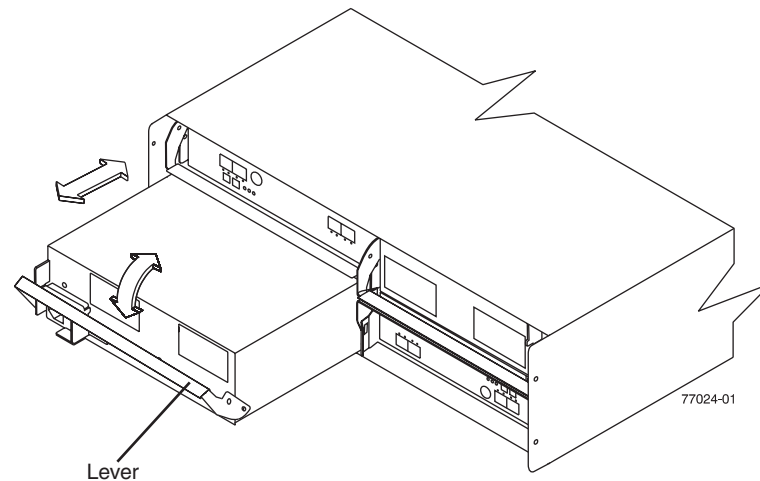

Figure 48. Replacing a power supply and fan unit
Use the following procedure to replace a power supply and fan unit. Figure 48 on page 93 illustrates removing and inserting a unit.
11. Slowly pull the lever away from the chassis to remove the power supply and fan unit, as shown in Figure 48 on page 93.